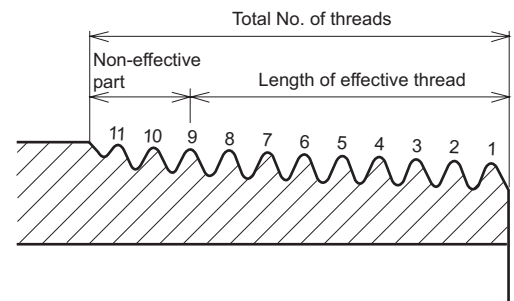

Fig. 45
- Confirm whether the thread length is as it should be according to the number of threads as shown in Fig. 45 below.